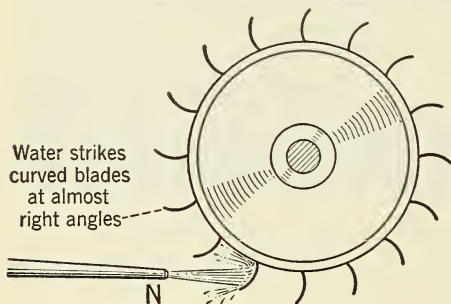

FIG. 17-13. In the Pelton wheel the water is directed against the blades at such an angle that little energy is wasted.
c) He may also use a more efficient device known as the *Pelton wheel*. In the use of such a wheel, the water is led downward through a pipe and directed against the blades of the Pelton wheel. Little energy is lost, because the water is directed against the blades at such an angle that it is very effective. [See Fig. 17-13.]